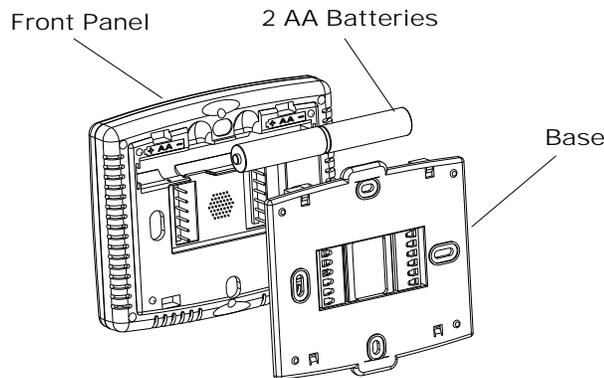

Figure 4
5. Connect wires to terminal block on base using appropriate wiring schematic (See Figure 4)
Install fresh batteries immediately when the **Low Batt** warning begins flashing. The warning flashes about 60 days before batteries are depleted. Even if the warning does not appear, you should replace batteries once a year, or before leaving home for more than 1 month. To replace batteries, set system to OFF, remove thermostat from wall and install the batteries in the rear along the top of the thermostat. (See figure 4)